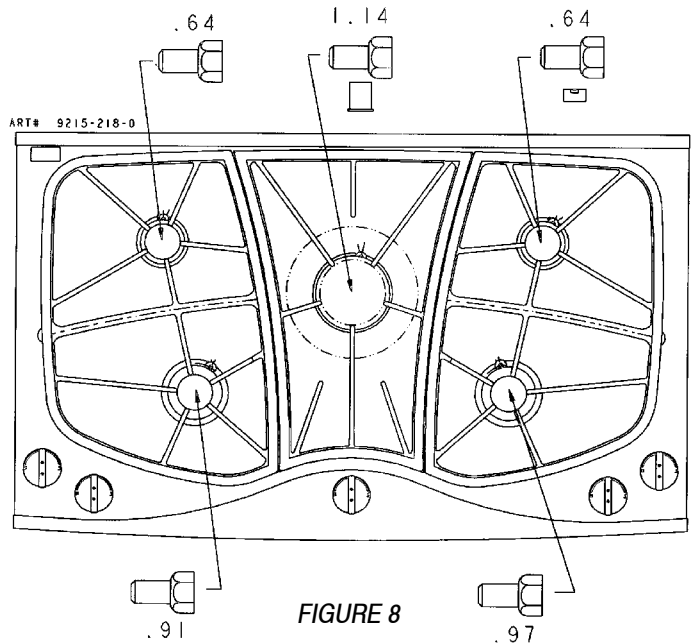

FIGURE 8
**Step 4:** Locate the LP orifice spud packet included in the literature packet. The spuds have small numbers stamped on the side. This number codes the orifice diameter and its correct burner location. Figures 8 and 9 show the correct LP orifice spud location.